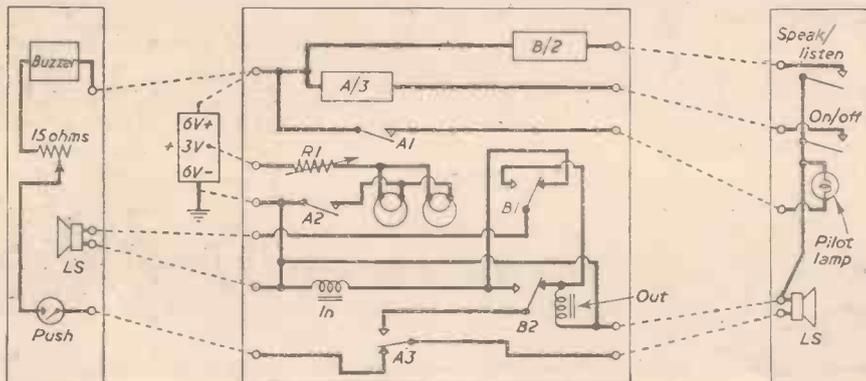

Fig. 1.—The theoretical circuit.
The circuit arrangement is shown in Fig. 1 and comprises three distinct units: (1) kitchen control; (2) amplifier; (3) door speaker. The system functions as follows: the caller presses an electric push-button mounted on the door in the usual manner. He thus completes a circuit from 6 v. +, through the